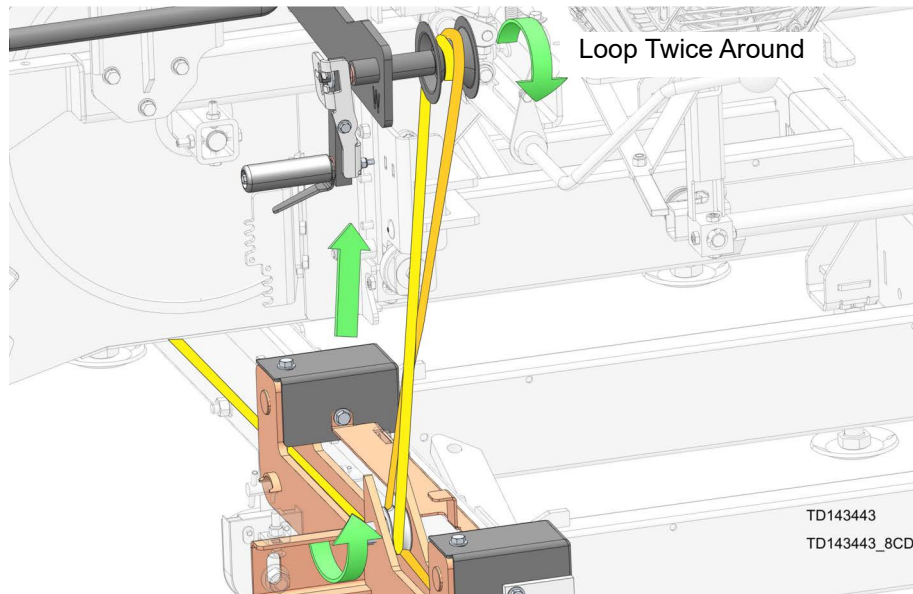

FIG. 8
11. Route feed rope up toward hand crank spool. See FIG. 8